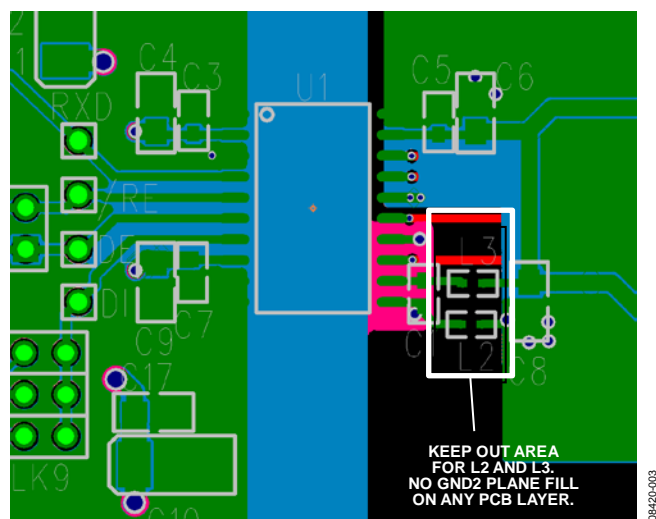

Figure 3. Layout Notes for EVAL-ADM2582EEBZ and EVAL-ADM2587EEBZ
- Do not connect the V_{ISOOUT} pin to a power plane; connect between V_{ISOOUT} and V_{ISOIN} using a PCB trace. Ensure that V_{ISOIN} (Pin 19) is connected through the L3 ferrite to V_{ISOOUT} (Pin 12), as shown in Figure 3.
- Ensure that GND_2 (Pin 16) is connected to GND_2 (Pin 11) on the outside (bus side) of the L2 ferrite, as shown in Figure 3.